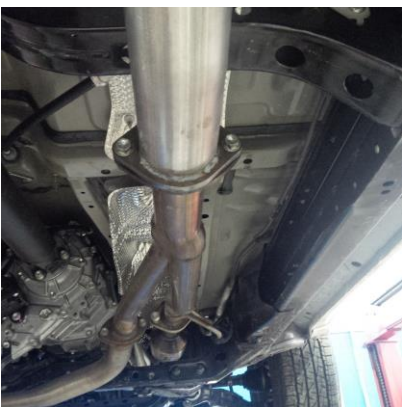

Figure 1
1. Beginning with the **Front Pipe**, attach it to the Y-pipe using the bolts that were previously removed. **Refer to Figure 1.** The **Front Pipe** does not require cutting to fit 140.6" wheelbase trucks. For 127.4" wheelbase trucks, approximately 13 1/4" needs to be cut off from the end of the pipe without the flange.